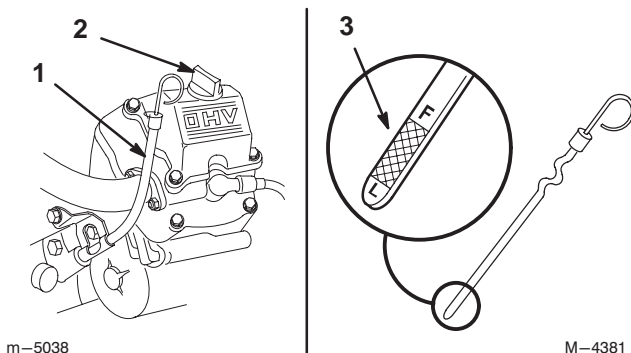

Figure 39
2. Clean around the oil dipstick so dirt cannot fall into the filler hole and damage the engine (Fig. 39).
3. Pull the oil dipstick out and wipe the metal end clean (Fig. 39).
4. Slide the oil dipstick fully into the filler cap. Pull the dipstick out and look at the metal end (Fig. 39). If oil level is low, slowly pour only enough oil into the filler tube to raise the level to the “FULL” mark.
5. Slowly pour approximately 80% of the specified amount of oil, page 32, into the filler tube (Fig. 39). Now check the oil level; refer to Checking Oil Level, page 33. Slowly add additional oil to bring to “FULL” mark on dipstick.